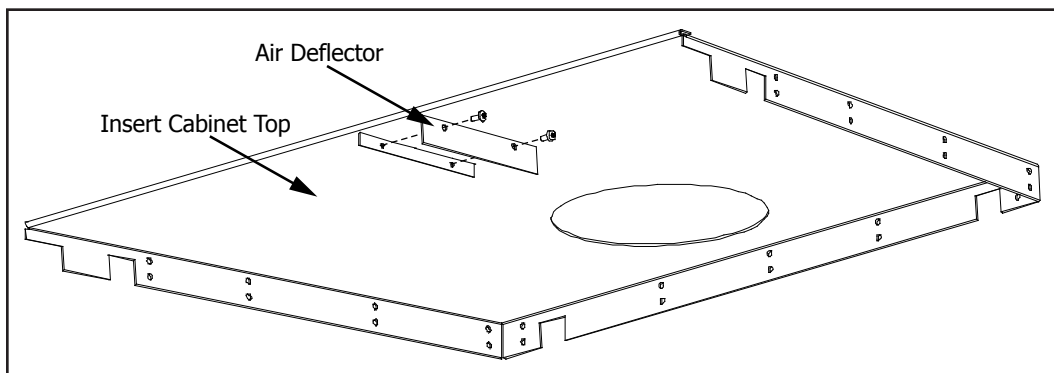

Figure 21: Removing Air Deflector onto Cabinet Top.
3. Remove the Air Deflector (shown in Figure 21) by removing the two (2) T-20 screws.